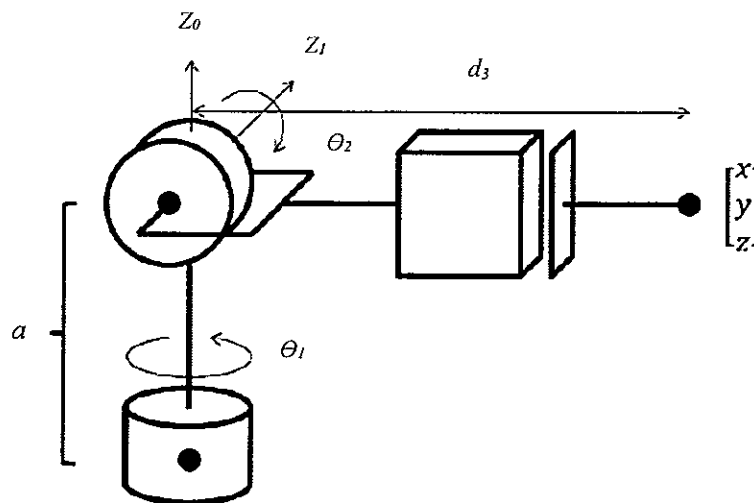

Figure 1. In this figure, θ_1 and θ_2 are shown at 0°
- b) (i) Consider the arm shown in Figure 1; solve the forward kinematics problem, i.e. determine the 0T_3 transformation